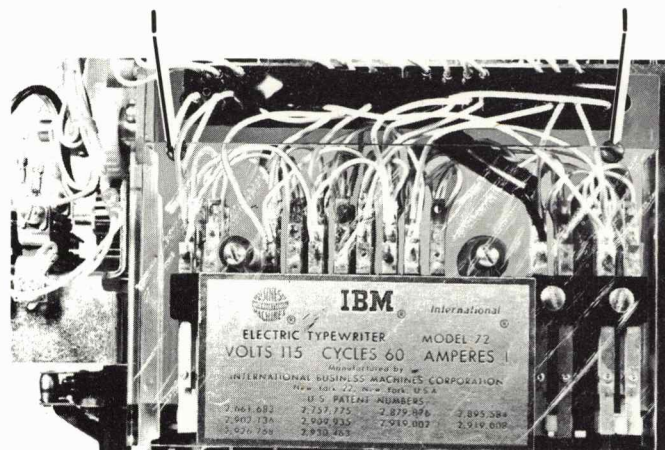

FIGURE 35. Latch Pusher Removal
- \* 1. Remove the two screws (#1, Figure 35) that hold the contact plate to the frame. Remove the contact assembly, holding it to the front with a rubber band.